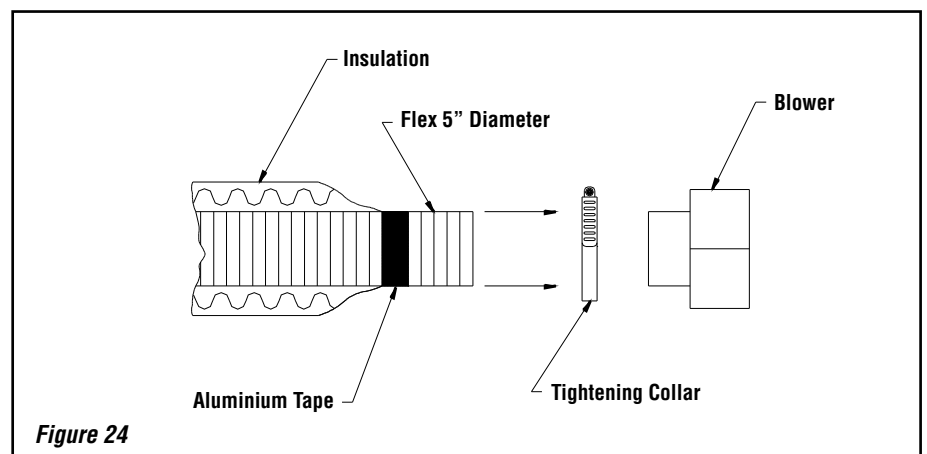

Figure 24
- E) Attach the flexible pipe to the fan, using the collars (**Figure 24**).